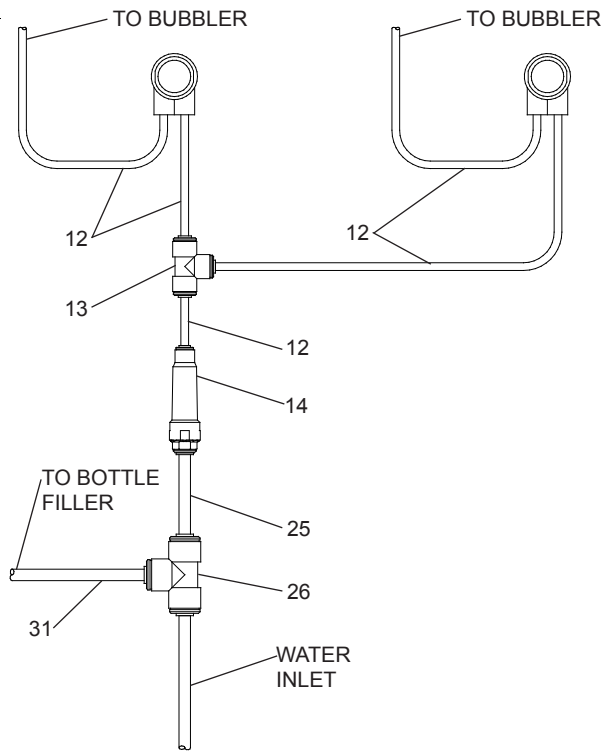

Figure 2 - EZWS-EDFPBM117K Tube Routing
- 3a. **(For EZWS-EDFPBM117K)** Install strainer on the input tube to the chiller (Fig. 2).